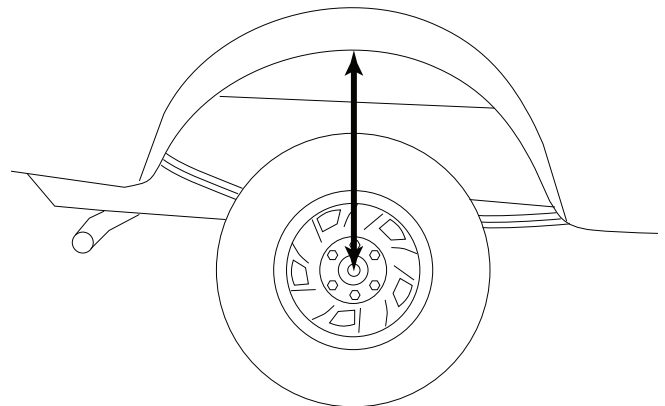

Fig. 3
2. Measure the distance between the center of the hub and the bottom edge of the wheel well (see Fig. 3). This is the Normal Ride Height. Enter the measurement below: